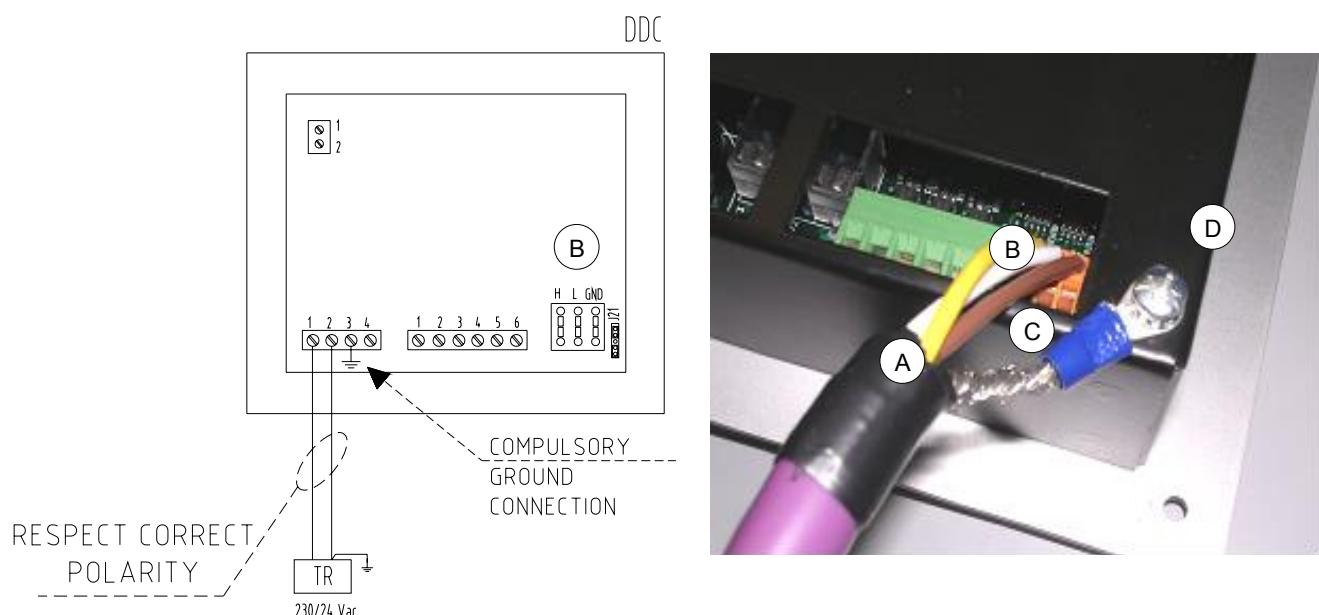

Figure 27 - Direct Digital Controller (DDC) – wiring diagram and partial rear view
☞ Before working on the DDC, make sure that it is off. The DDC, like the electronic board on the appliance, has jumpers that must be moved so that it can be configured as an intermediate or terminal node. The position of the jumpers on a new DDC is CLOSED, as illustrated in Figure 27, on page 62.
5. Roll the shielding and connect it to a 4-mm eyelet terminal as illustrated in Figure 27 on page 62, points C and D. Then, proceed as follows.
9. Use the fixing screw of the rear cover, located near the CAN bus socket, to fix the 4-mm eyelet (or 2 eyelets for intermediate nodes, see detail D, Figure 27 on page 62).
Connect the DDC to the transformer via the 4-pole connector provide for this, following the diagram in Figure 27 on page 62. With the DDC cover opened (unscrew the 4 screws to remove cover), pass the cable through the opening in the cover before fixing the wires to the connector.
As in Figure 27, the connections to the terminals of the 4-pole connector are:
After having carried out all of the above operations, close the rear cover of the DDC if opened, and tighten the 4 screws taking care to fasten the eyelet (or eyelets) of the CAN bus cable shield with the screw at the bottom right, as illustrated in Figure 27 on page 62.